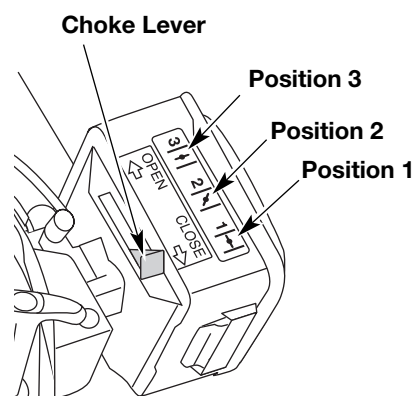

Fig. 10
4. Place the choke lever in **Position 1** (Fig. 10).
6. Place the choke lever in **Position 2** (Fig. 10).
9. Place the choke lever in **Position 3** (Fig. 10). The unit is ready for use.